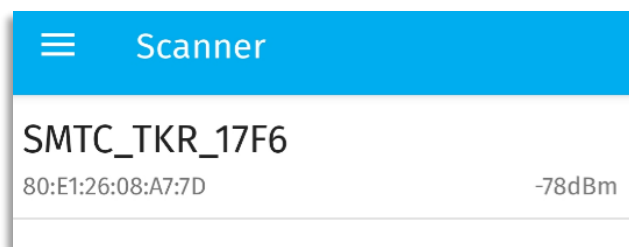

Figure 6: Tracker Detected by Application
i) You should see the name of your LoRa Edge Tracker Reference Design device displayed, as illustrated in Figure 6: